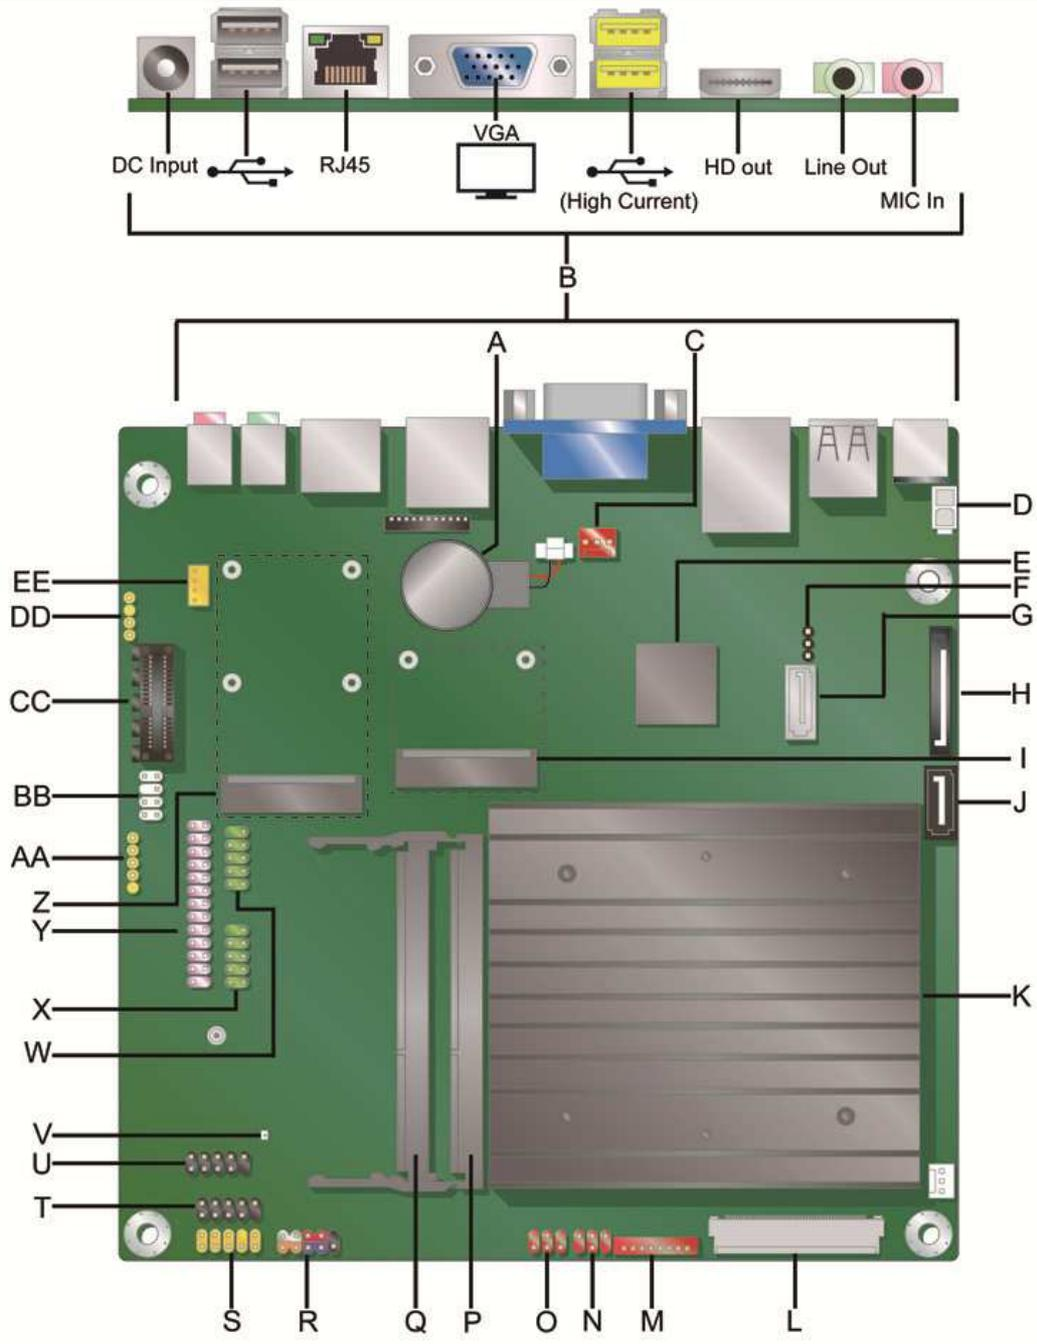

Figure 1. MiTAC Desktop Board PD11TI Components (Top)
Figure 1 shows the approximate location of the major components on the top side of MiTAC Desktop Board PD11TI.
**TABLE 2. MiTAC DESKTOP BOARD PD11TI COMPONENTS (SHOWN IN FIGURE 1)**